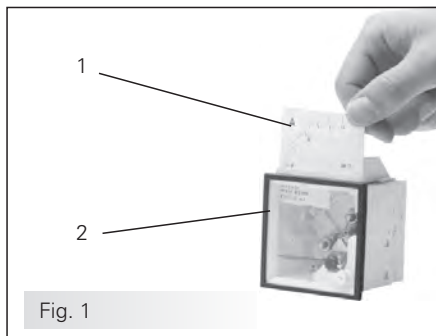

Fig. 1
With measuring instruments AM/VM72 and AM/VM45 for c.t. connection n/1A (Fig. 1, item 2) the interchangeable scales can be exchanged via a flap on the upper part of the measuring instrument (Fig. 1, item 1).